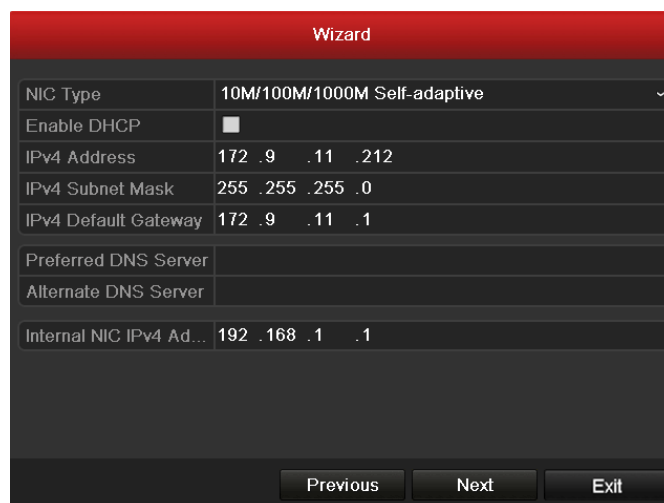

Figure 2. 5 Date and Time Settings
6. After the time settings, click **Next** button which takes you back to the Network Setup Wizard window, as shown in Figure 2. 6.